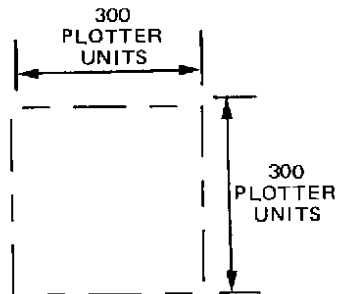
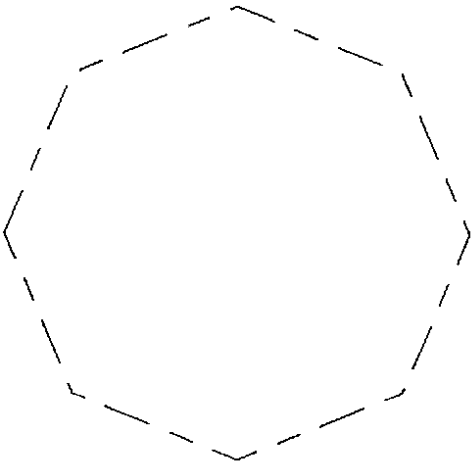

Figure 6-15. Fixed Dash Line Square
Figure 6-16. Fixed Dash Line Circle With 63 Plotter Units Arc Tolerance
**Result** Draws a four sided box, each side being 300 plotter units in length in dash line font (see Figure 6-15). The plot is shown in Detail G, Figure 6-22. This is the box, drawn in solid line format, in the ROTATE instruction example. Verify that there are 1-1/2 pattern lengths in each side of the box.
**Result** Draws a circle, approximated by eight chords, in dash line font (see Figure 6-16). The dash line font is the one previously defined in the procedure for Figure 6-15. The plot is shown in Detail J, Figure 6-22.